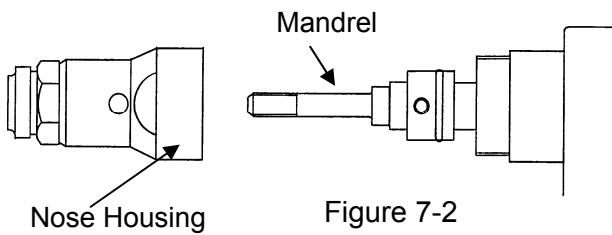

Figure 7-2
- b) Use a 23mm spanner to unscrew and remove the Nose Housing.(See Figure 7-2)